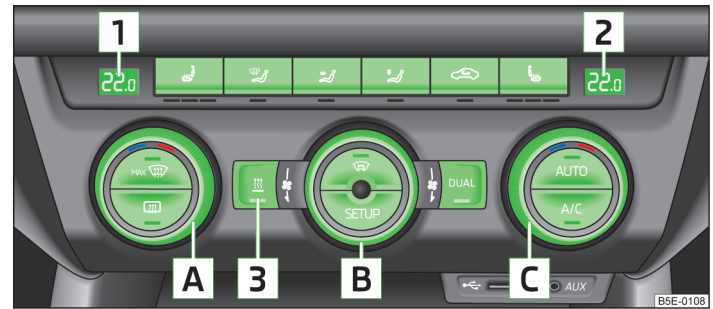

Fig. 109 Climatronic: Control elements
- ✓ **A/C** » Fig. 109 on page 101 switched on.
Functions of the individual controls » Fig. 109:
- Press the symbol button **AUTO** » Fig. 109 on page 101.
- Turn the control dial **A** » Fig. 109 on page 101 to the left or right to increase or decrease the temperature.
- Turn the control dial **C** » Fig. 109 on page 101 to the left or right to increase or decrease the temperature.
➤ Turn the control dial **B** » Fig. 109 on page 101 to the left or right to increase or decrease the blower speed.
- Press the symbol button » Fig. 109 on page 101.